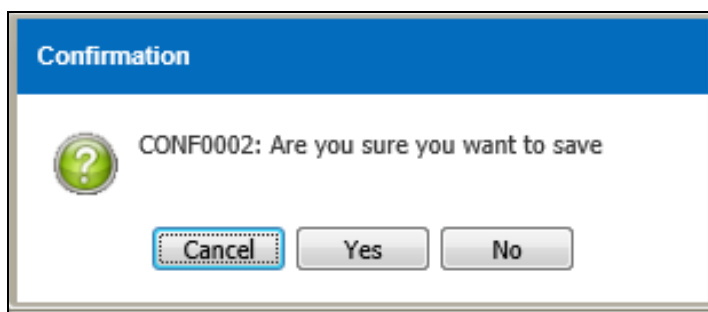

Figure 3.9.1-3 Confirmation Message
- Confirmation message as shown in Figure 3.9.1-3 will be displayed after user save the record
- Record will save when user click on the  button as shown in Figure 3.9.1-4